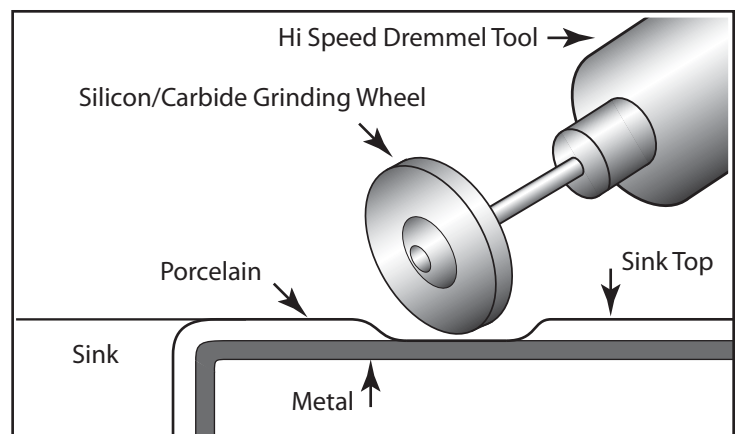

Figure 1, Using a Dremmel® Tool to Remove Porcelain
**For porcelain sinks**—factory approved method is: first grind away porcelain with Dremmel® tool and silicon grinding wheel (about ¾" circle). Then, using a standard ½" high-speed drill bit, drill hole through metal portion of sink. (See Figure 1) Alternately, use a "glass and tile carbide spade tipped bit."